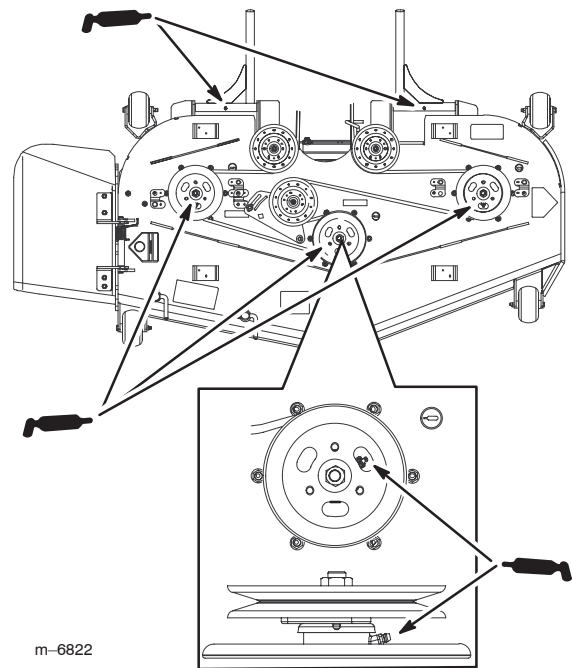

Figure 47
3. Grease the three spindle bearings under the pulleys until grease comes out the lower seals (Fig. 47).
4. Grease the fittings on the push arms (Fig. 47).